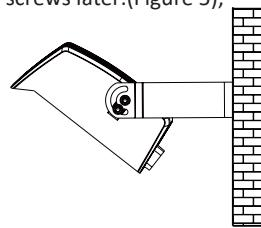

figure 5
- Step 3: Loosen screw; Adjust fixture angles as per actual demands and tighten screws later.(Figure 5),